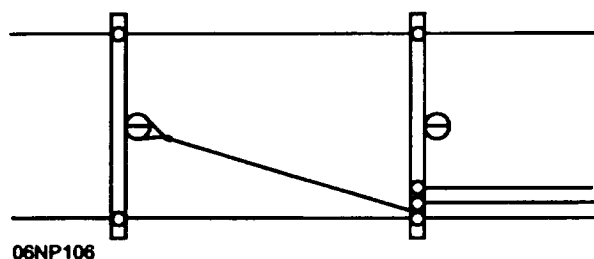

Figure 4-9.—Arm guy.
**ARM GUY.**—A guy wire running from one side of a crossarm to the next pole is called an "arm guy." Arm guys are used to counteract the forces on crossarms that have more wires dead-ended on one side than on the other (fig. 4-9).